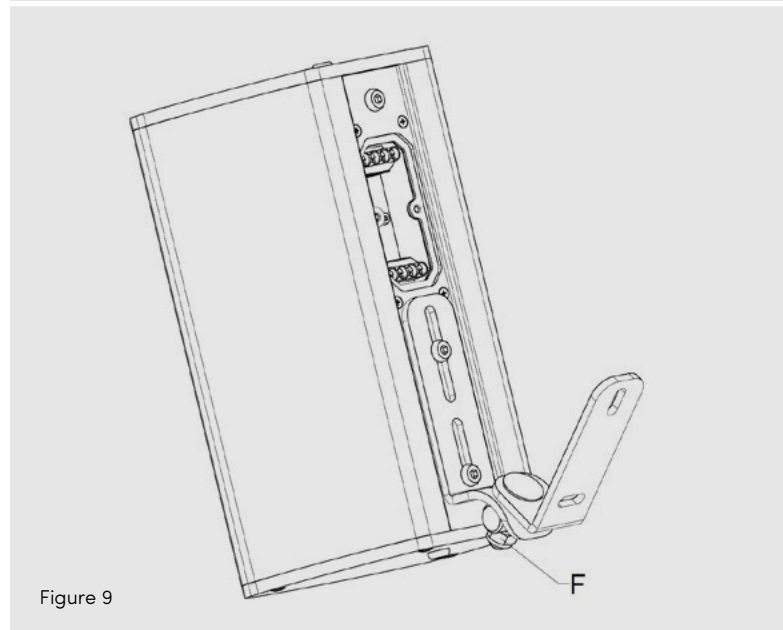

Figure 9
4. Tighten the M8 nut (F) just as far as it is still possible to turn and angle the loudspeaker. Set the required rotation and inclination angles. SEE FIGURE 9.
5. Once you are happy with the above angles, tighten the M8 nut (F) using a torque of 18 Nm.